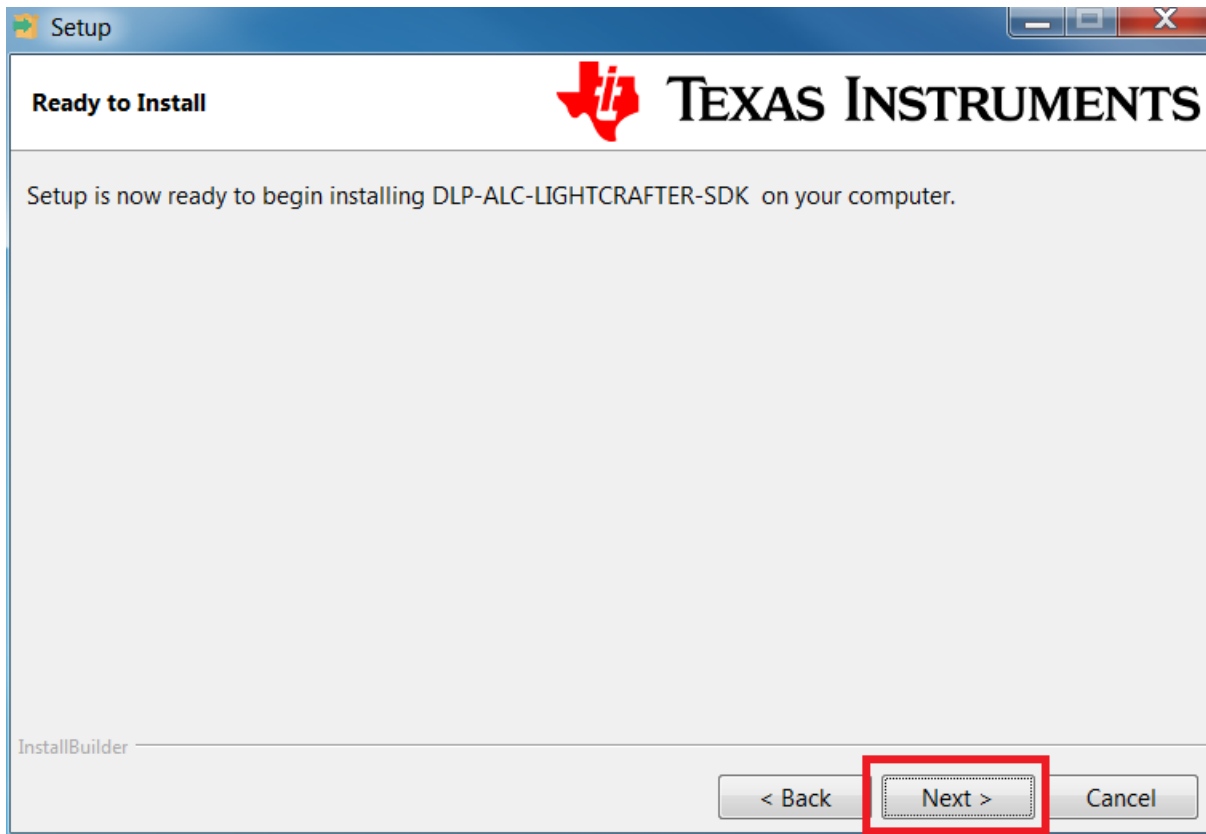

Figure 42. DLP ALC SDK Installer Ready
6. The installer is now ready to copy the source files. Select "next" as shown in Figure 42.